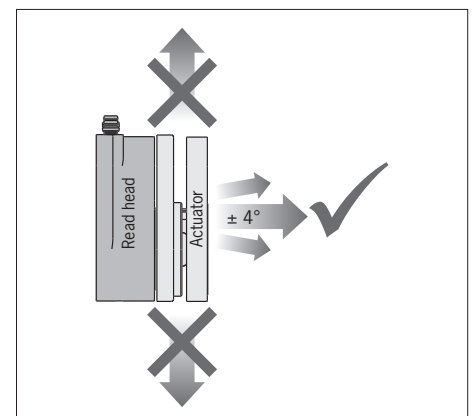

Fig. 1: Approach direction
- ▶ When the safety door is opened, the actuator must be moved away from the read head toward the front (see Fig. 1).